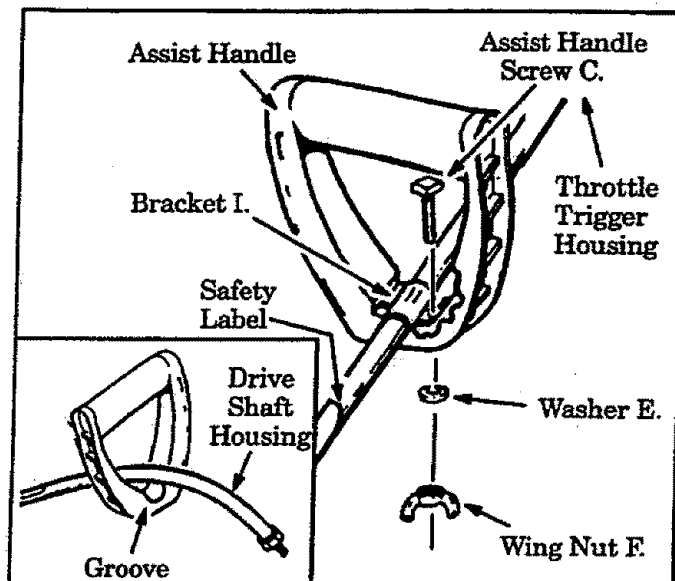

Figure 2
- Insert the end of the tube through the assist handle. Figure 2 (inset).
- Align the assist handle between the safety label and the throttle trigger housing. Seat tube in the groove in the assist handle. Figure 2.
- Insert the tab on bracket I. into the slot on the assist handle. Figure 2. Then, lay the bracket into place over the tube.
- Insert screw C. down through the hole in the assist handle bracket and then through the assist handle. Figure 2.
**CAUTION:** When adjusting the assist handle for comfort, be sure that the assist handle remains between the trigger housing and the safety label. Figure 2.